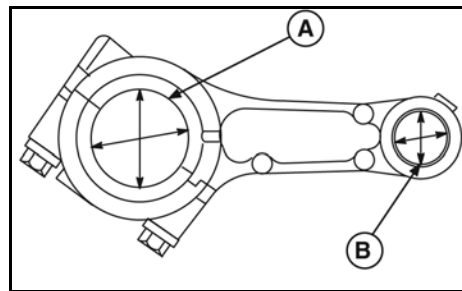

Figure 6
If the crankpin bearing (A, Figure 6) or the piston pin bearing (B) is scored, the rod must be replaced.